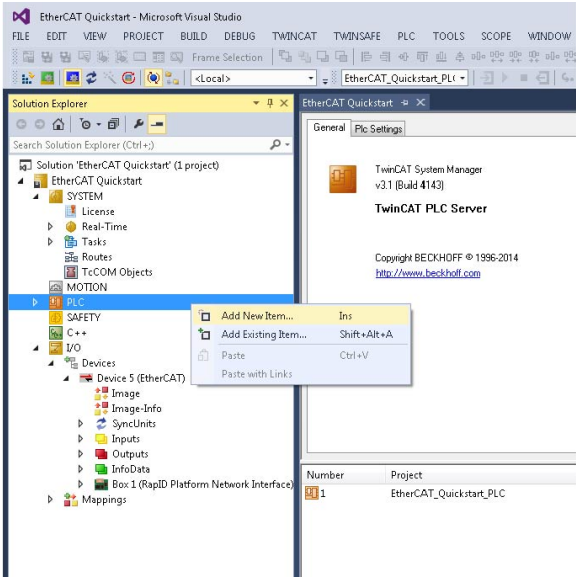

Figure 35. Add New Item, PLC
1. Within the **Solution Explorer** pane, go to **Solution 'EtherCAT Quickstart' (1 project)**, right-click **PLC**, and select **Add New Item** (see Figure 35).